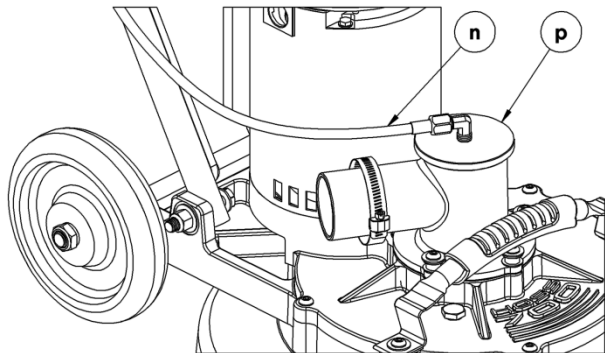

Figure 6.
5. Attach the Solution Line 1 (Figure 6.)